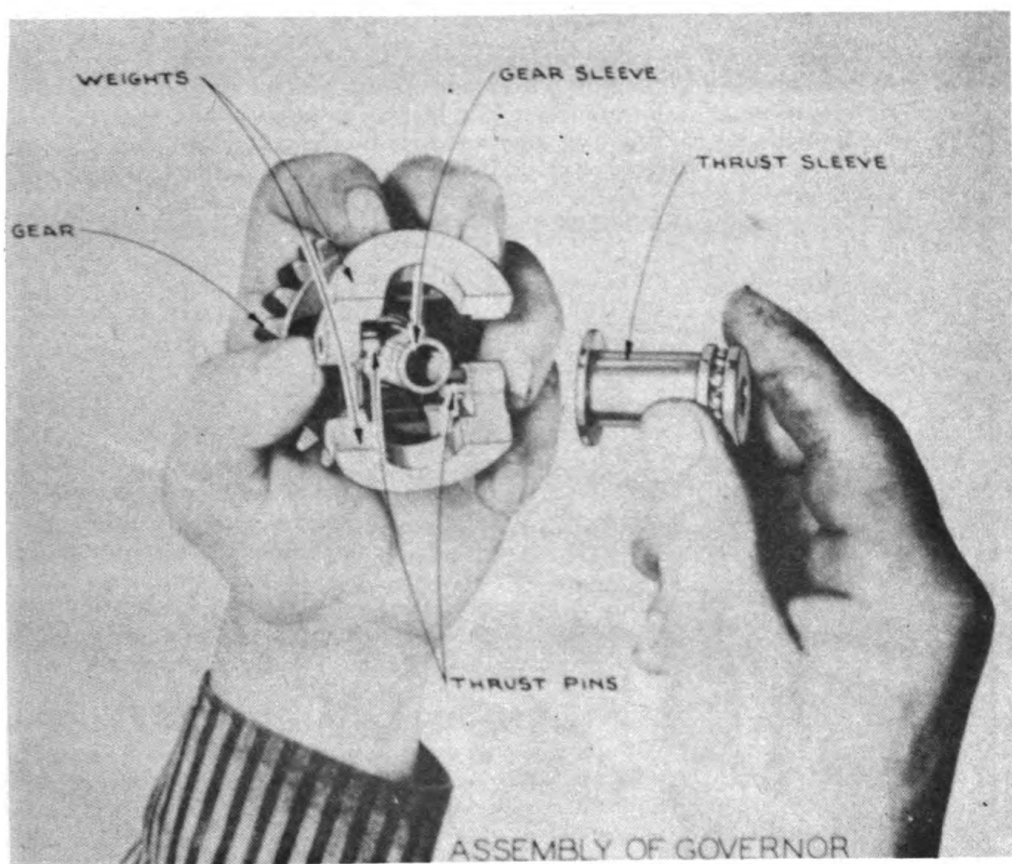

Fig. 71
**INSTALLATION OF GOVERNOR**—The governor on this engine is so constructed that the governor weights and thrust pins are assembled directly to the governor gear. Care should be taken when installing the governor thrust sleeve that the sleeve bears directly on the thrust pins of the governor weights. To install the thrust sleeve in the proper manner the gear with the weights assembled should be held firmly in one hand and the weights spread outward to a position where the flange on the governor gear sleeve will clear the outer parts of the weights. The sleeve should then be installed in such a manner that the bottom flange rides directly on the thrust pin. (Fig. 71). The entire assembly of the governor gear, governor weights, and governor gear thrust sleeve should then be installed over the governor shaft which is tightened into the gear cover. The governor house should then be installed using a new gasket, and should be secured in place with the capscrews and lockwashers provided. The oil line to the governor should then be connected.